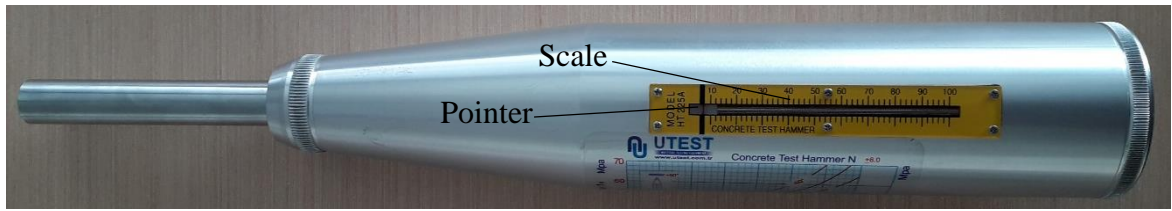
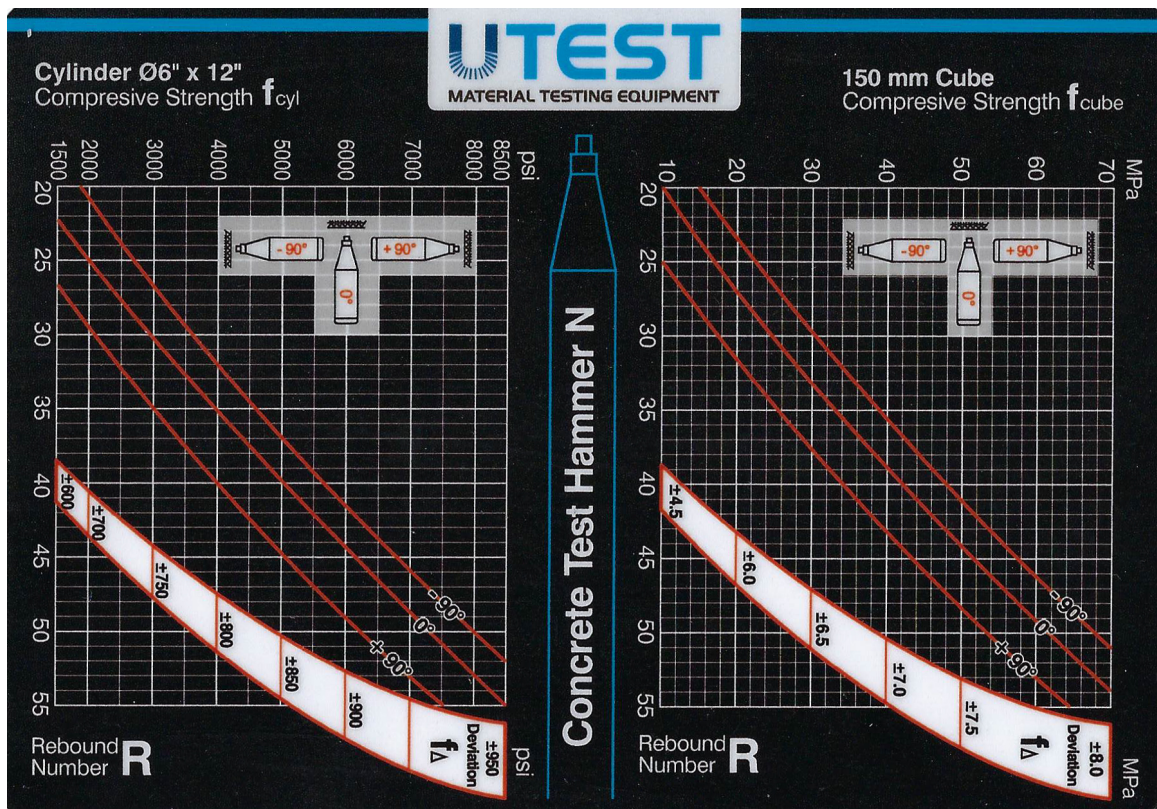

Figure 4: Scale
Figure 5: Conversion Chart
- Then read off and note down the rebound value R indicated by the pointer on the Scale and impact direction (See Figure 4). The strength of the concrete (f_R) is found in MPA by using the Conversion Chart on the hammer (See Figure 5).